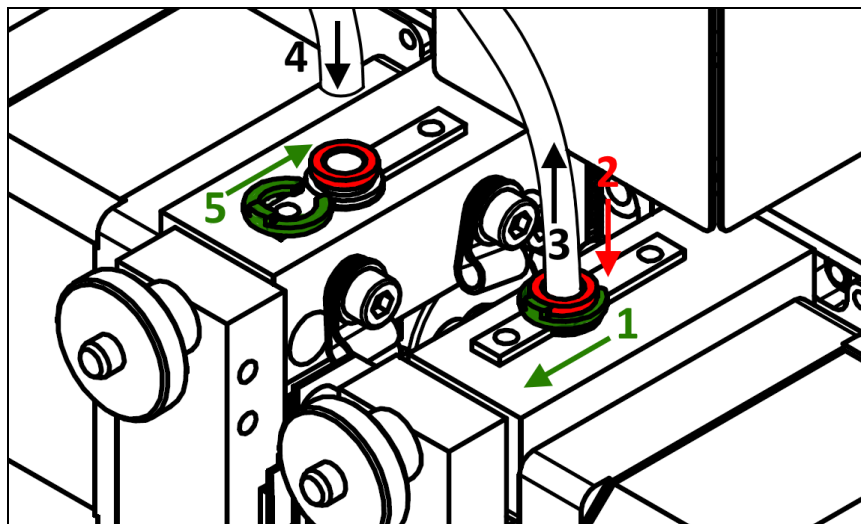

Fig. 59 Removing the material feeding pipe from the extruder
2. Slide the C-shaped lock out (fig. 59, step 1) from the pipe connector;
3. Press the pipe connector lock (fig. 59, step 2) and simultaneously remove the feeding pipe from the pipe connector by pulling it up (fig. 59, step 3);
5. Slide the feeding pipe back into the pipe connector opening until resistance is felt – about 2 cm (fig. 59, step 4), and then, slide the C-shaped lock in (fig. 59, step 5);
3. Slide the material feeding pipe out of the extruder (see above, Case 3, fig. 59)